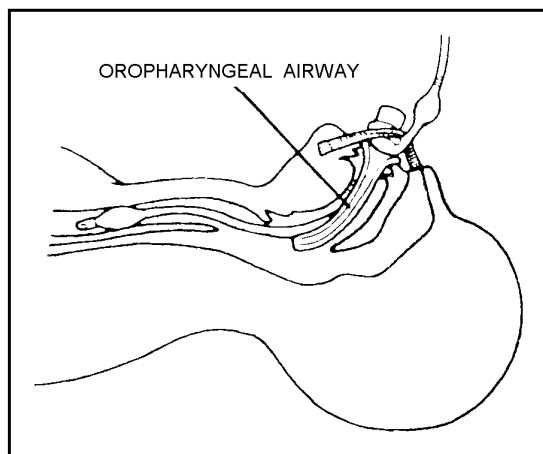

Figure 3-71
- (4) Hold the cuff valve in one hand and simultaneously twist and pull the syringe with your other hand to remove the syringe.
14. Wedge a bite block or J tube between the back teeth to prevent biting of the ET tube which may cause partial or complete obstruction of the tube. (See Figure 3-71.)